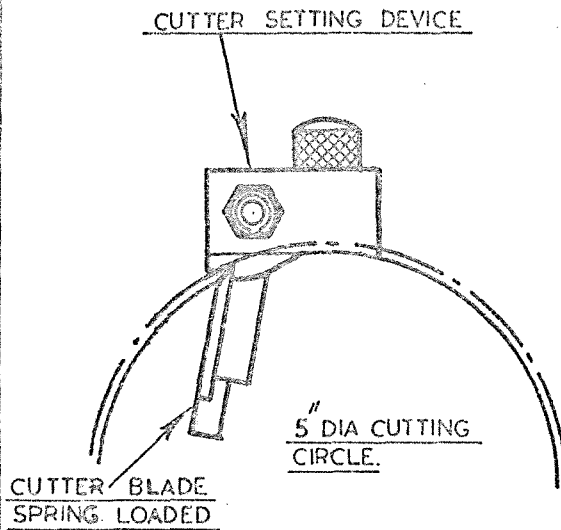

FIG. 4.
3. To re-set the knives. Place the knife in the slot making sure that all faces are clean and the clamping bar free from burrs. Press the knife into the cutterblock and lock the setting device to the cutterblock body with the knurled headed screws supplied until the predominant pads rest on the cutterblock body as shown in Fig. 4. Position the knife central in the cutterblock.